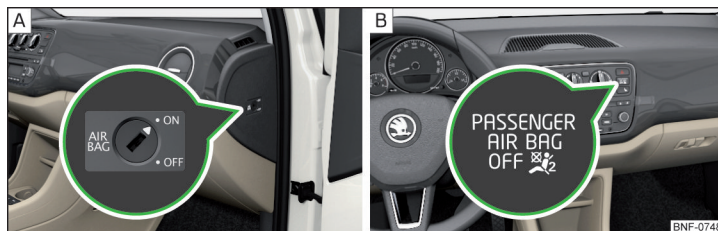

Fig. 11 Key-operated switch for the front passenger airbag / warning light for front passenger airbag
The front passenger airbag can be switched off with the key-operated switch » Fig. 11 on page 16 - [A].
Positions of the key switch » Fig. 11 - [A]
- ON** The front passenger airbag is activated - after switching on the ignition, the **warning lamp OFF**  does **not light up** » Fig. 11 - [B]